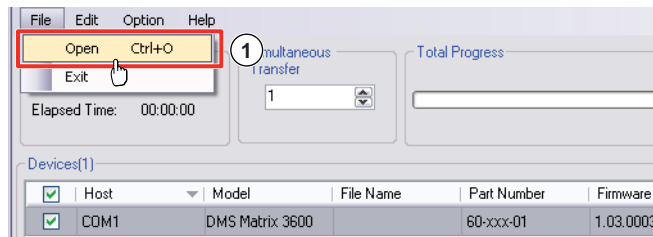

Figure 44. Extron Firmware Loader Window
If you are connected via either serial port, the Firmware Loader window opens (see figure 44 and Serial-port or USB-port-connected firmware upload on the next page).
11. Select the DMS matrix switcher and click **File** > **Open** (see figure 44 [①]).